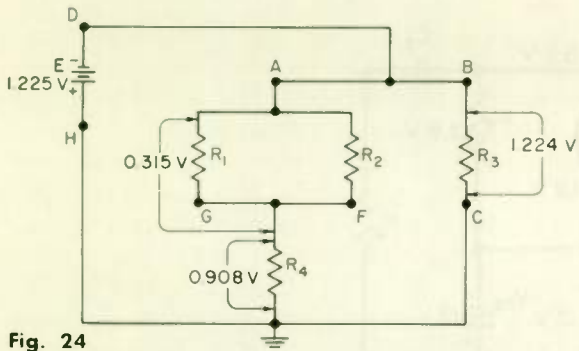
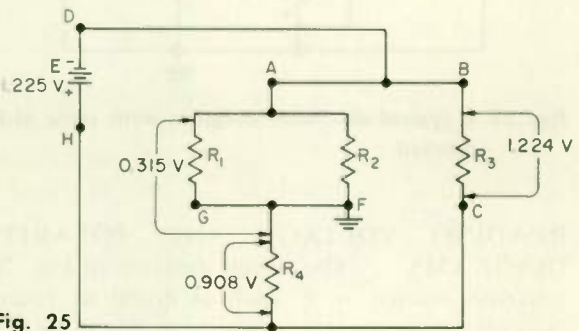

Fig. 24
Fig. 25
1. Figure 24 is Fig. 15(g) redrawn with a ground added. Mark on the figure the voltages with respect to ground at points A , B , C , D , F , G , and H . Be sure to show the polarity of each voltage.
2. Figure 25 is the same as Fig. 24, except that the ground has been changed to a different place. Mark on the figure the voltages with respect to ground at points A , B , C , D , F , G , and H , being sure to also mark the polarity of each voltage.